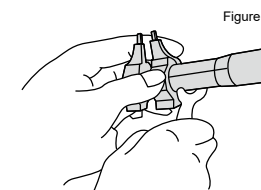

Figure 1
- If the reference point difference is ±0.01 mm or less (Figure 1) Insert the included key wrench into the hole on the rear of the reference line on the sleeve, and then rotate the sleeve until the reference line is aligned with the zero graduation line on the thimble.